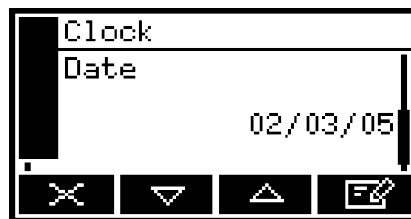

Figure 14: The Clock (date) screen
4. Press the  soft key to show the Clock (date) screen, as shown in Figure 14.